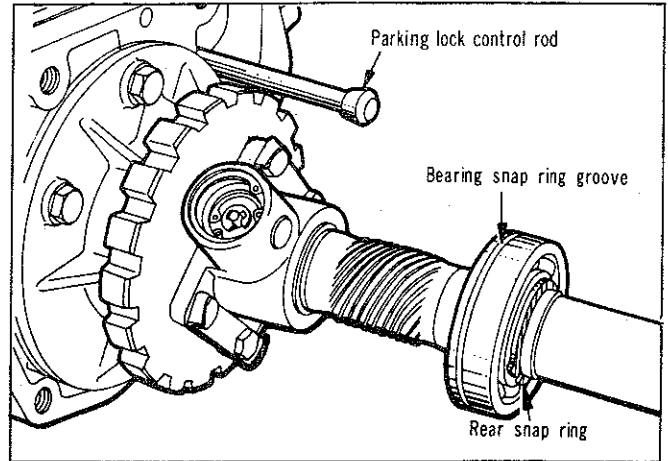

Fig. 25—Output shaft bearing
(1) Using heavy duty snap ring pliers remove output shaft bearing rear snap ring and remove bearing from the shaft (Fig. 25).
(2) Install a new bearing on shaft with outer race ring groove toward front (Fig. 25), then install rear snap ring.